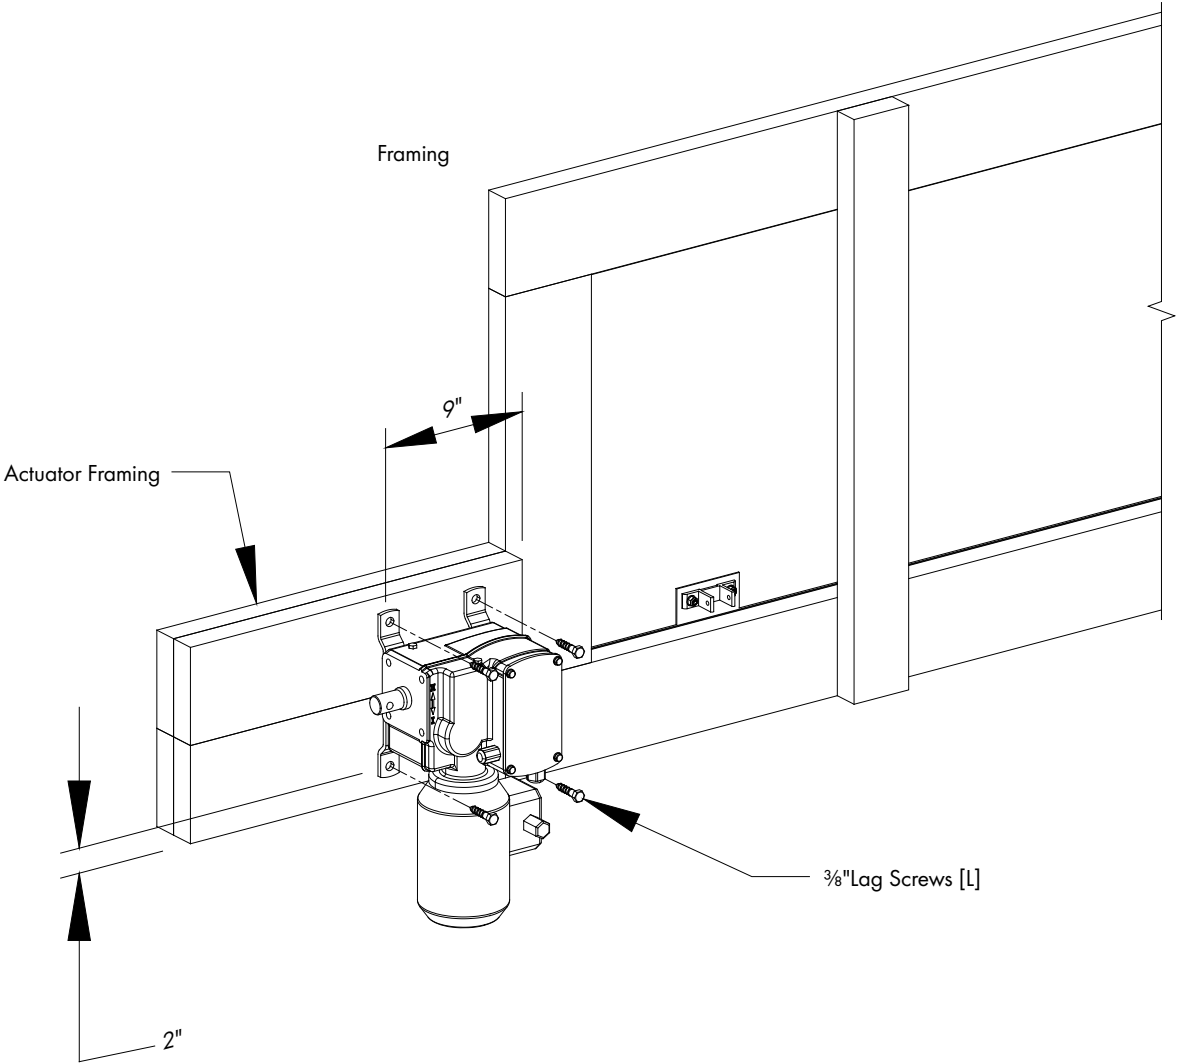

Figure 27
Attach Actuator to actuator framing using (4) 3/8" Lag Screws [L]. See Figure 27.